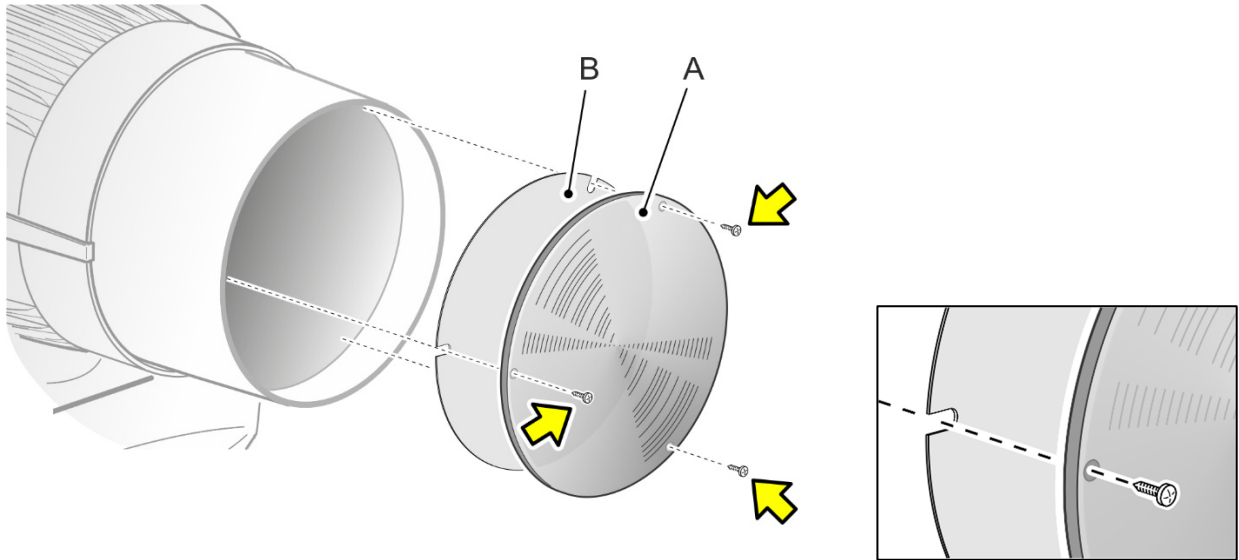

Figure 12. Removing a micro-Fresnel lens
2. See Figure 12. Remove the three Phillips #1 screws (arrowed) from the lens in the front of the head.